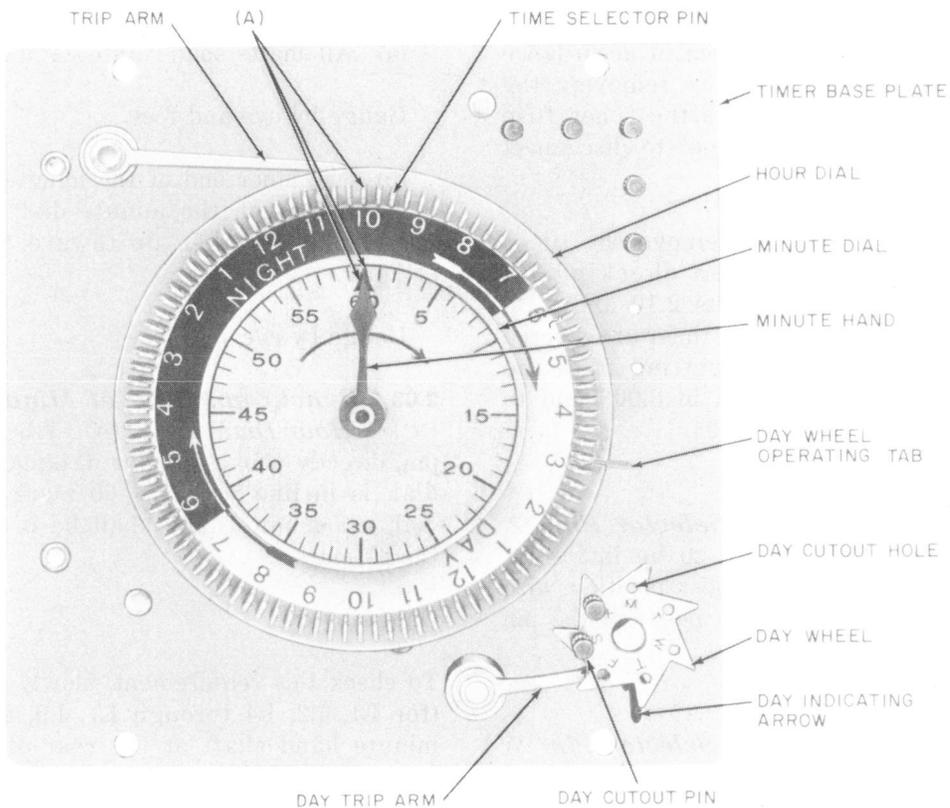

Fig. 1—KS-14741 Program Timer—Front View (L1 Timer Shown)
2.03 **Synchronization of Minute Hand With Hour Dial:** Fig. 1 (A)—When a time selector
With the timer connected in the circuit, turn the minute hand (Fig. 1) cw until the correct hour of the day or night on the hour dial is in line with the 60-minute mark on the minute dial. Then further turn the minute hand until it is in line with the mark on the minute dial indicating the correct number of minutes past the hour.